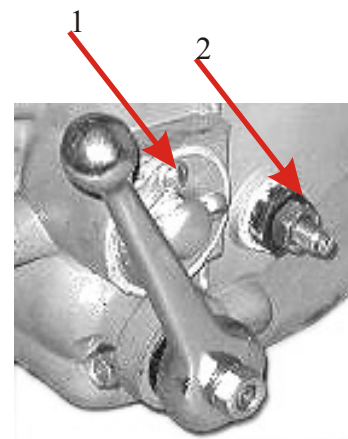

Fig.64
- Slacken the wire terminal fastening nut and pick-up screw-locking nut (Fig. 64, Pos. 2).